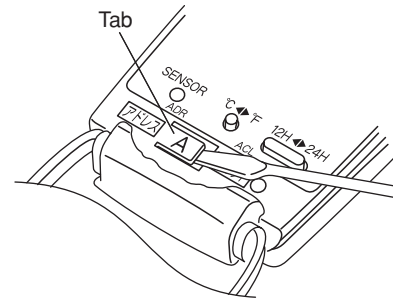
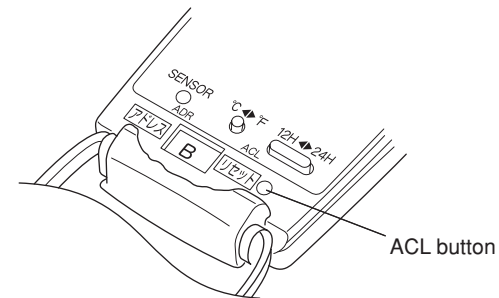

Fig. 62
Fig. 63
- (1) Switch on the power source.
- (2) Break the address-setting tab marked "A" on the second remote controller to change the address (Fig. 62). When the tab is removed, the address is automatically set to B (Fig. 63).
- (3) Press and hold the remote controller ION button and 1 HR TIMER button. At the same time, press the ACL(reset) button. Use a thin object such as the tip of a pen to press the ACL button. When this has been done, "oP-1" (test run) appears, blinking, in the remote controller clock display area.
- (4) Each time the 1 HR TIMER button is pressed, the display changes as shown below. Press this button 2 times to change the display to "oP-7" (address setting).
- (5) "oP-7" has now been selected for address setting.